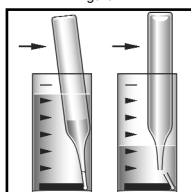

Figure 3
3. **Immediately** snap the tip in the sample by pressing the ampoule against the side of the cup. The ampoule will fill leaving a small bubble to facilitate mixing (fig 3).